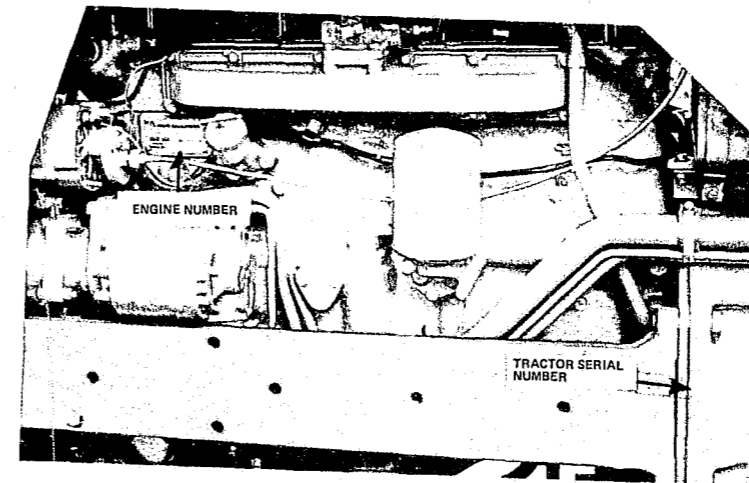

Figure 3
- 840B—The engine number is stamped into a metal plate which is riveted to the right side of the engine block near the crankcase filler pipe. (See Figure 3)